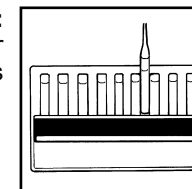

Figure 5
- a. **High Range Comparator (fig. 5):** Place the ampoule between the color standards until the best color match is found.